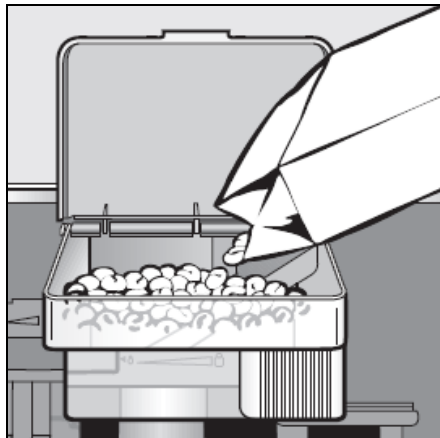

Figure 3-9: Filling the Beans Container
2. Lift the lid, as shown in Figure 3-9.